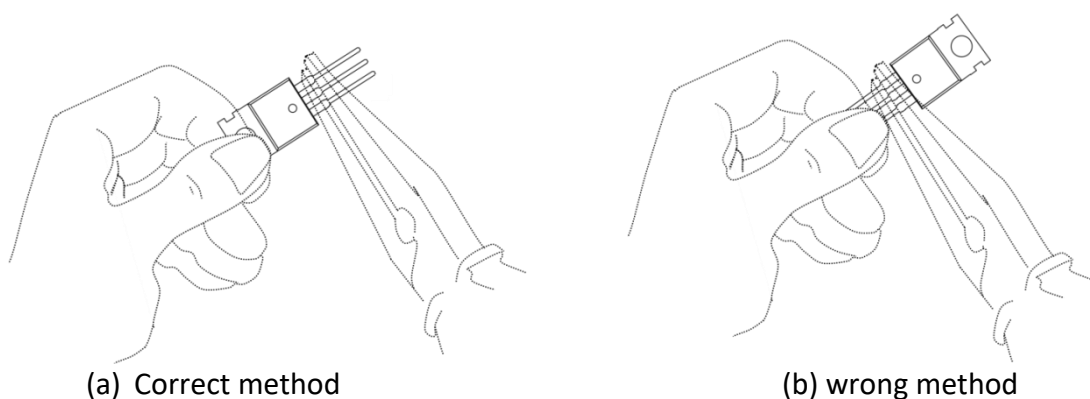

Fig 7. Manual lead bending
- For manual lead bending, an un-tapered snipe-nose plier is recommended for fixture; see Fig 7.